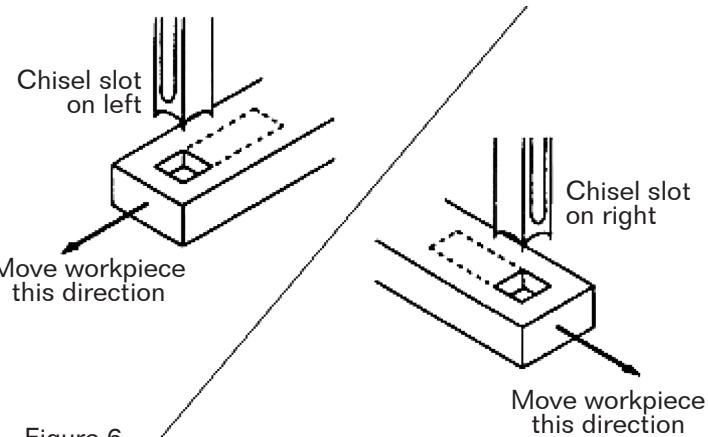

Figure 6
- After the first cut, the workpiece is moved along with the right handwheel for each successive cut. The direction of movement must allow the chips to clear freely. Move the workpiece so that the slot in the chisel is releasing chips into the already cut part of the workpiece. See Figure 6.